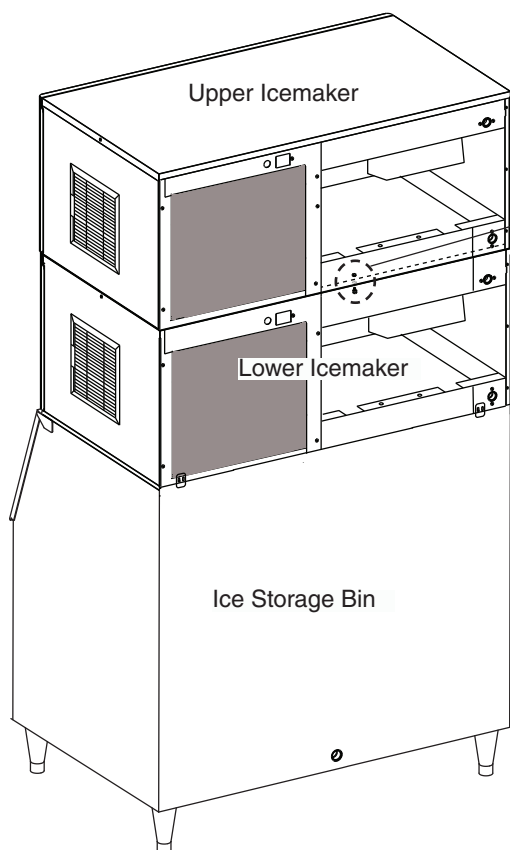
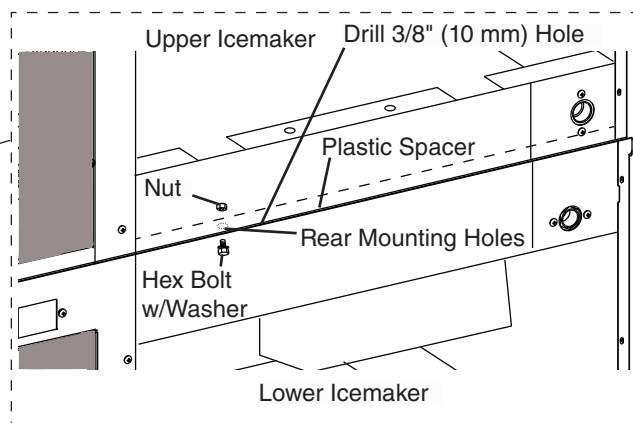

Fig. 9
Fig. 10
- 17) Stack the upper icemaker on top of the lower icemaker. Use of a duct jack may be required. See Fig. 9. **WARNING! Icemaker is heavy. Use care when lifting or positioning. Work in pairs when needed and use a duct jack if available to prevent injury or damage.**
- 18) Once in place, make the front, rear, and side panels flush to the lower icemaker. See Fig. 9.
- 19) At the rear of the icemakers, locate the upper and lower icemakers rear mounting holes. See Fig. 9. To prevent plastic shavings from entering the ice storage bin area during drilling, place a large pan or cloth under the icemakers rear mounting holes. Using the icemakers upper or lower mounting hole as a guide, drill a 3/8" (10 mm) hole down or up through the top plastic spacer between the upper and lower icemaker. See Fig. 10.
- 20) Secure the upper icemaker to the lower icemaker using one of the hex bolts w/washer and nuts provided in this kit. See Fig. 10.